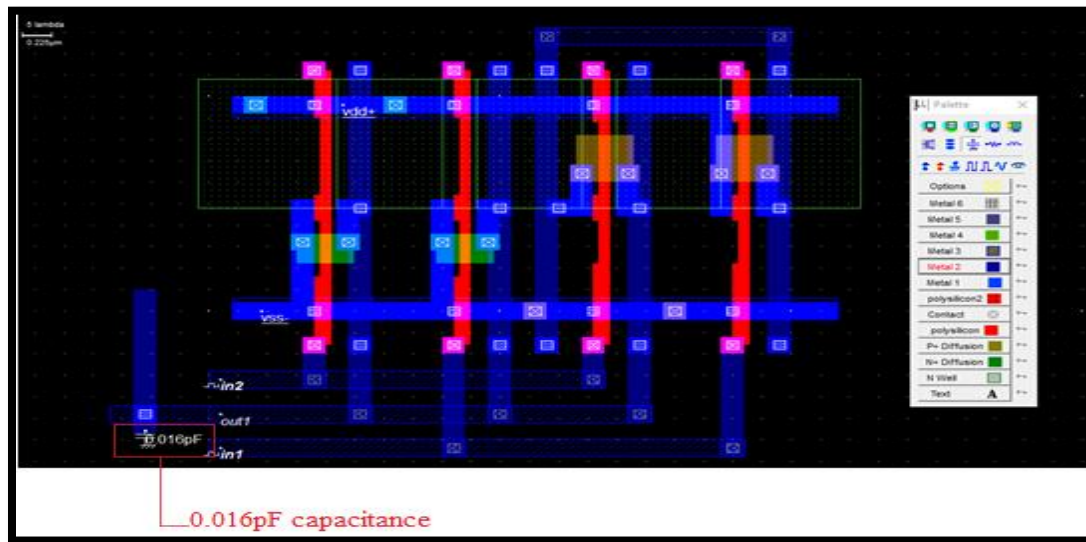

Figure 32: showing the capacitor on the layout
- Click Simulate -> Run simulation. A simulation window appears with inputs and output, shows the propagation delay of the circuit. The power consumption is also shown on the right bottom portion of the window. See figure 32: